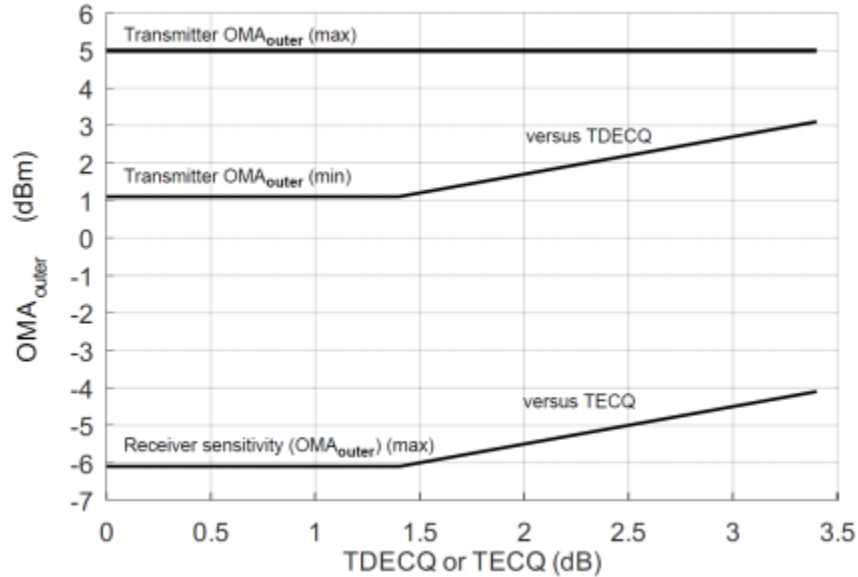

Figure 4. Illustration of Transmitter OMA_{outer} and Receiver Sensitivity Mask for 800G-8x100G LR
2. The values for OMA_{outer}(min) vary with TDECQ. Figure 4 illustrates this along with the values for OMA_{outer}(max).
6. Receiver sensitivity (OMA_{outer}) is informative and is defined for a transmitter with a value of TECQ up to 3.4 dB. Receiver sensitivity should meet Equation (1), which is illustrated in Figure 4.